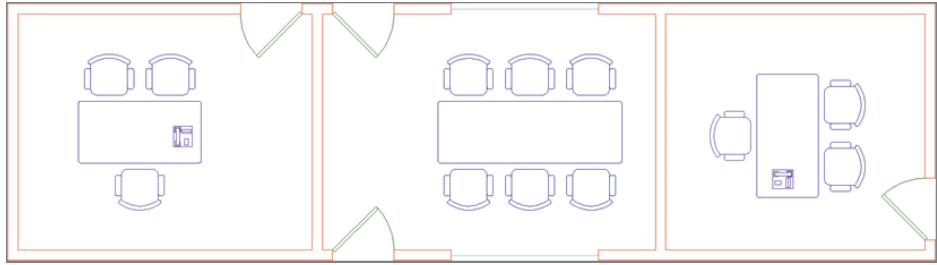

FIGURE 7.30 Final organized plan containing blocks and groups
14. Open the Layer drop-down menu, and toggle on the Door layer. Figure 7.30 shows the final result.